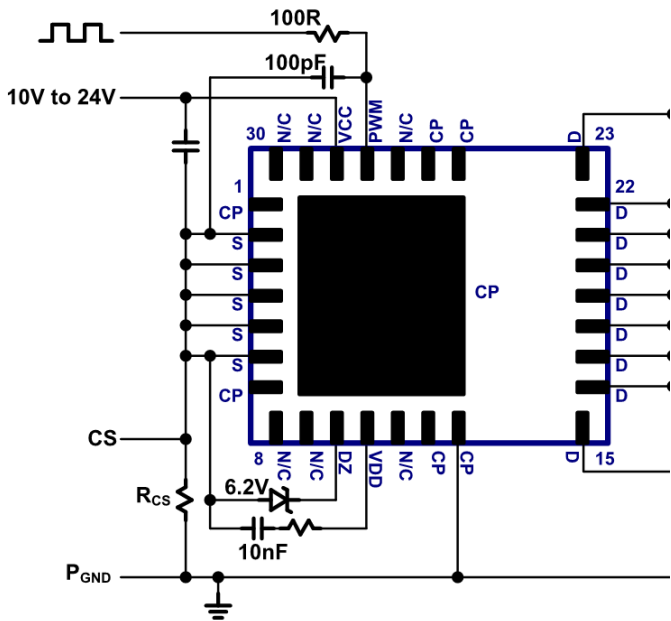

Fig. 24. Current sensing circuit
For many applications it is necessary to sense the cycle-by-cycle current flowing through the power FET. To sense the current flowing through the GaNFast power IC, a standard current-sensing resistor can be placed in between the source and power ground (Fig. 24). In this configuration, all of the components around the GaNFast power IC (V_{CC} , C_{VDD} , D_z , etc.) should be grounded with a single connection at the source. Also, an additional RC filter can be inserted between the PWM signal and the PWM pin ($100\ \Omega$, $100\ \text{pF}$ typical). This filter is necessary to prevent false triggering due to high-frequency voltage spikes occurring at the source node due to external parasitic inductance from the source PCB trace or the current-sensing resistor itself. For increased cooling pad PCB copper area it may be desired to connect CP to the circuit PGND. Fig. 24 shows the components around the GaNFast power IC grounded at the source pins (S and CP connected to PGND). This allows for all CP pins and CP pad to be connected to a large and continuous thermal copper area without being obstructed by the current sensing resistor. CP must be connected to source (S) or circuit PGND! Do not leave CP floating!